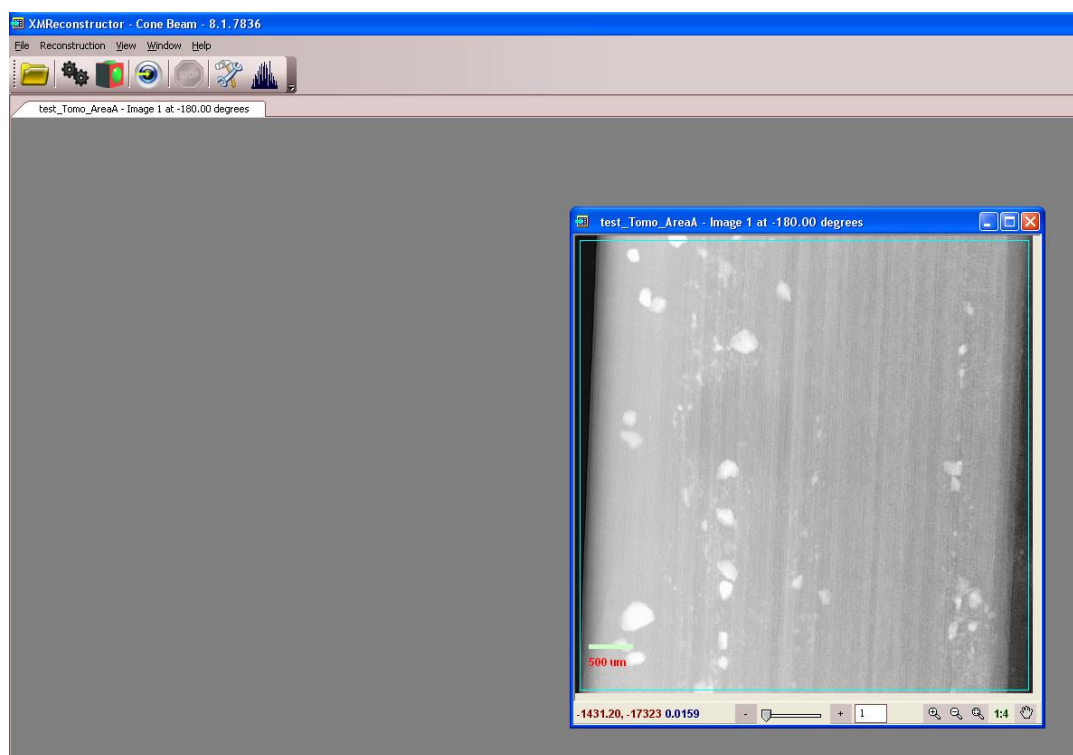

Figure 8-8 XMReconstruct main window
3. Browse the destination file path and open the large .txrm file. (Figure 8-8)